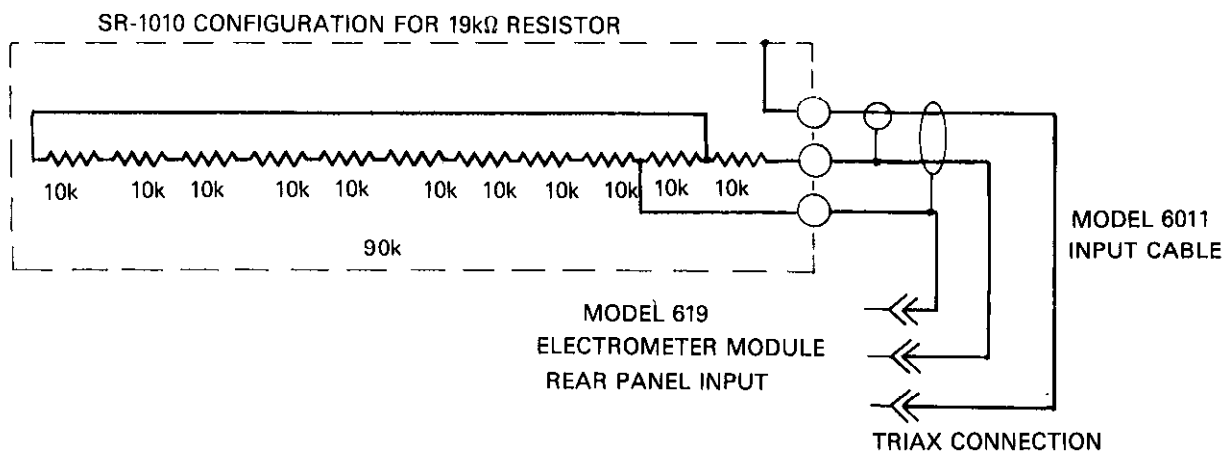

Figure 6-7. Range Calibration 20kΩ
10. 20k Ω Range (Ohms Reference) Calibration: Zero Check the Model 619 and set the Ohms function. Select the 20k Ω range and verify a display reading of 0.000 +3 using Zero Correct if necessary. Connect the 19k Ω Calibration Resistor to the input of the Model 619, release the Zero Check and adjust R657 for a display reading of 19.000 +3 to within ± 1 count. Refer to Figure 6-7.